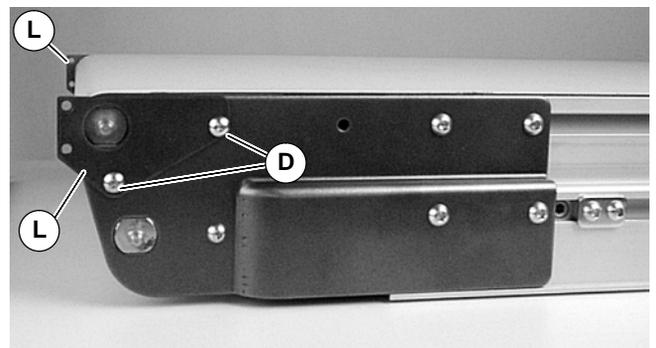

Figure 13
3. Install transfer side plate (L of Figure 13) using two (2) screws (D) on each side of conveyor. Tighten screws to 28 in-lb (3 Nm).